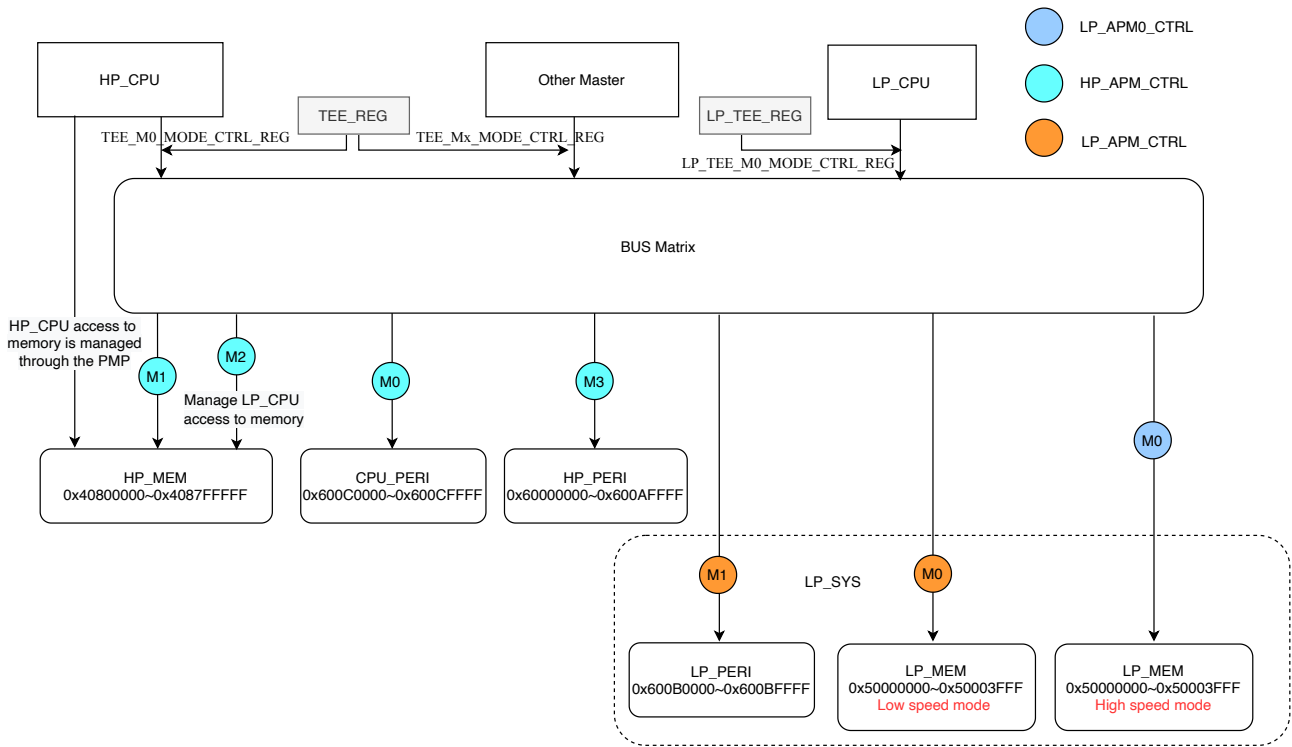

Figure 14-1. APM Controller Structure
Figure 14-1 shows the access path managed by the APM controller.
As shown in the Figure 14-1, APM controller contains 3 functional modules: HP\_APM\_CTRL, LP\_APM0\_CTRL, and LP\_APM\_CTRL, configured by the register modules HP\_APM\_REG, LP\_APM0\_REG, and LP\_APM\_REG respectively.
- HP\_APM\_CTRL manages 4 access paths, namely M0-M3 in the figure 14-1. Permission management of each path can be enabled by configuring HP\_APM\_FUNC\_CTRL\_REG (enabled by default).
- LP\_APM0\_CTRL manages one access path, namely M0 in the figure 14-1. Permission management of this path can be enabled by configuring LP\_APM0\_FUNC\_CTRL\_REG (enabled by default).
- LP\_APM\_CTRL manages 2 access paths, namely M0 and M1 in the figure 14-1. Permission management of each path can be enabled by configuring LP\_APM\_FUNC\_CTRL\_REG (enabled by default).
Different access paths managed by the same register module share the configuration of address ranges and access permissions. For example, the permission management of data path HP\_APM M0-M3 shown in figure 14-1 should follow the address ranges and access permissions of each address range configured in the register module HP\\_APM\\_REG. Likewise, the permission management of data path LP\_APM M0-M1 shown in figure 14-1 should follow the address ranges and access permissions of each address range configured in the register module LP\\_APM\\_REG.